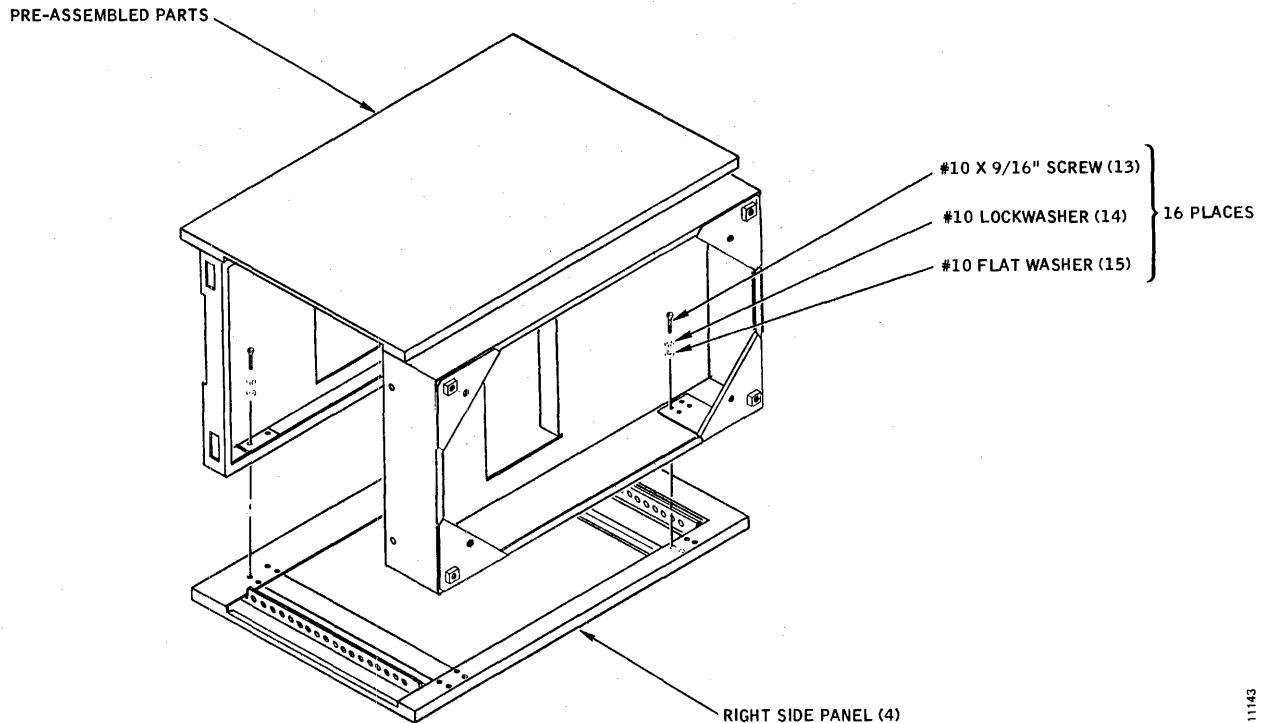

Figure A-3. Stand Assembly, Steps 5 and 6
5. Turn the assembled parts over so that the Left Side Panel is facing up, and set it aside. Place the Right Side Panel (4) flat on its finished surface, and set the assembly down over it, as shown in Figure A-3. Use sixteen #10 x 9/16" pan head screws, split lock-washers (13, 14, 15) to assemble the Right Side Panel to the assembly, top and bottom.